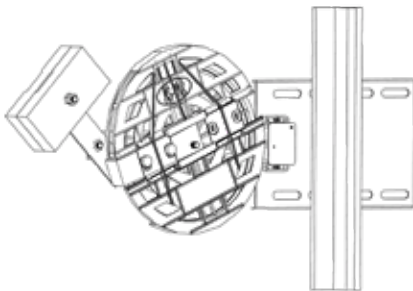

Fig. 17
2. If tension pulley direction is inverse, dismantle the 2 screws (red colored) which exists on protection plastic and inverse protection plastic as seen at Fig. 17